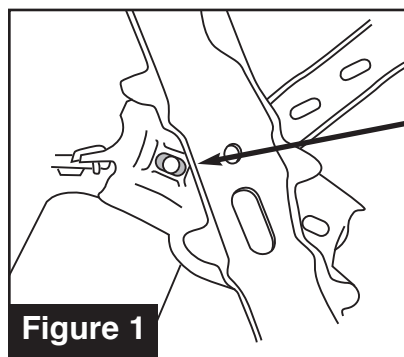

Figure 1
3. Pry control arm mount up away from subframe so that a rotary file such as **#85130** can be used to elongate outboard hole in subframe per factory etching (see Figures 1 and 2).